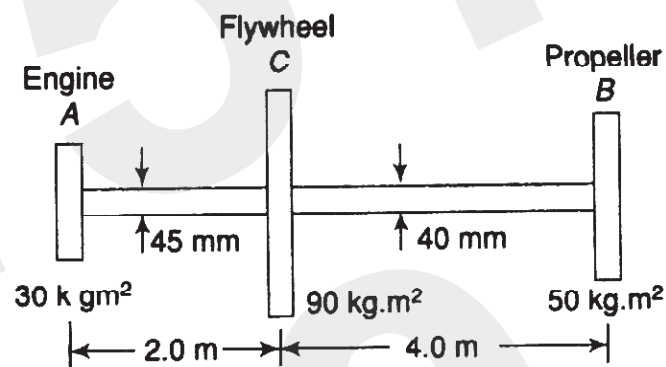

Fig. 4
25. A torsional system is shown in Fig. 4. Find the frequencies of torsional oscillations and positions of nodes. Also find the amplitudes of vibrations. Take,  $G = 84 \text{ GPa}$ .